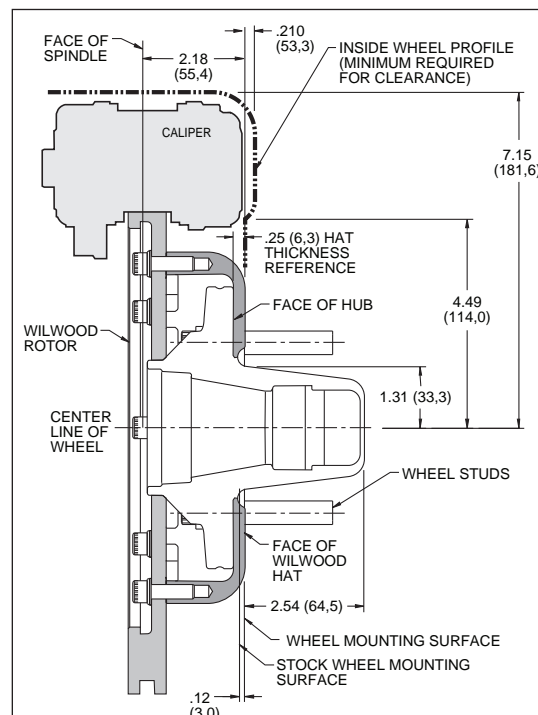

Figure 2. Wheel Clearance Diagram
- Verify wheel clearance, see Figure 2.